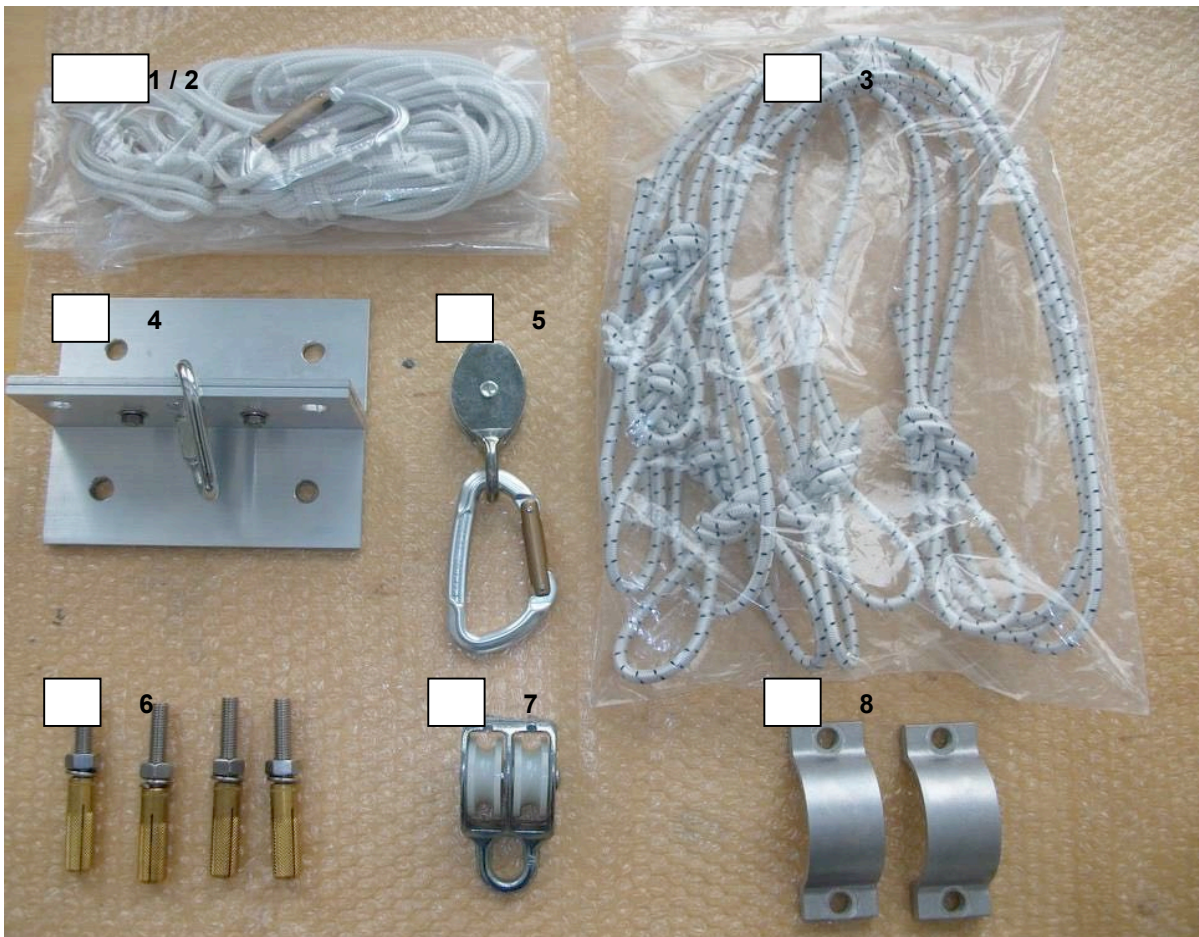

Figure 14, Material for vertical Shaking Table
All material which is needed for the vertical weight compensation is shown in Figure 14.
- Fixate the table again by tighten all screws on the bottom of the movable part (**A3**, see also Figure 14, Part 8) and the ones on both sides of the rotation axis (**A2**)